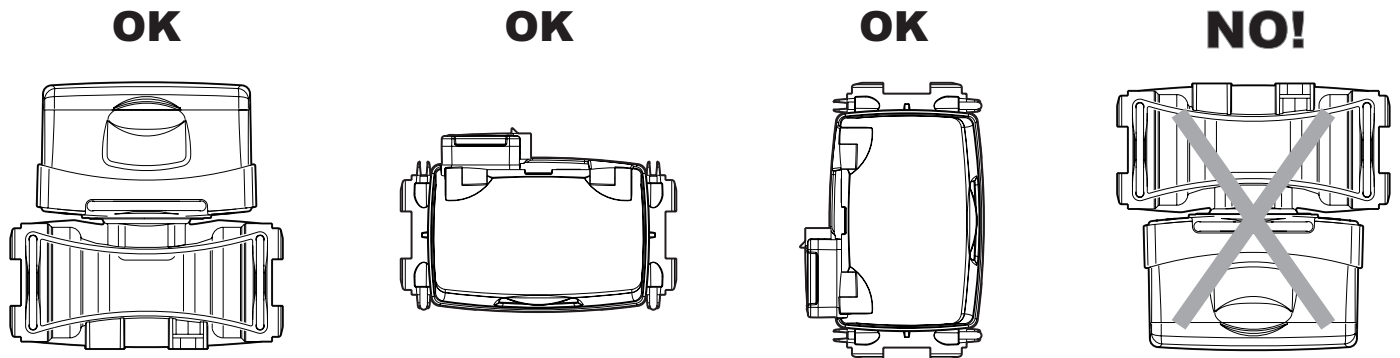

Fig. 1
- Do not install the flowmeter with the connector facing downwards (Fig. 1).